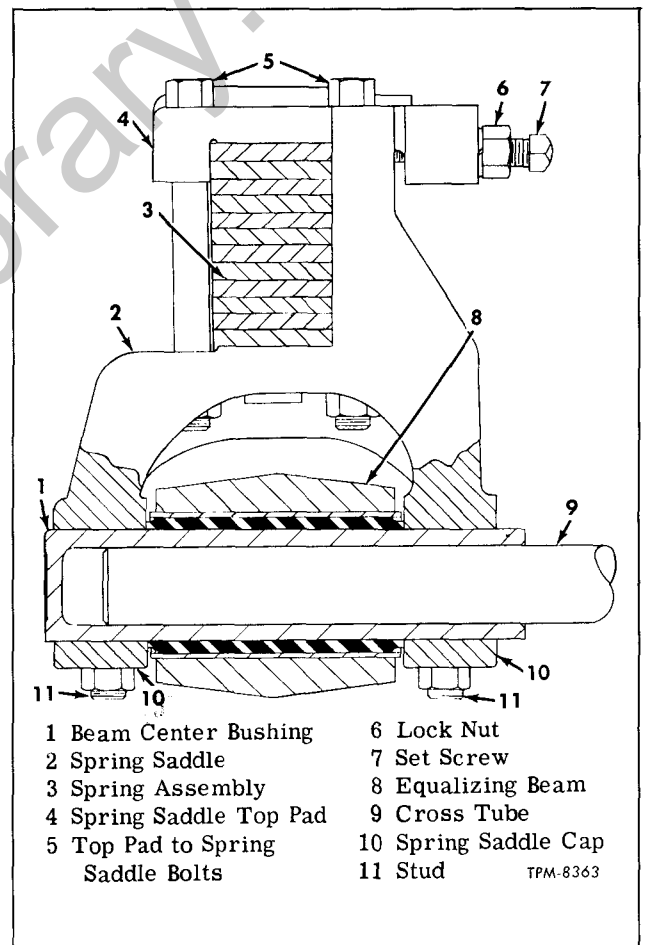

Figure 14—Section Through Spring Saddle and Beam (RT Type Suspension)
2. At axle brackets, remove nuts (5), washers (7), and bolt (1). Pry adapters (2) from bushings and brackets.
3. With blocking under beam cross tube (fig. 14 or 15) to support weight of beams, remove saddle caps (fig. 8 or 9) attached with four nuts and special flat washers.
EQUALIZING BEAM INSTALLATION (Refer to Fig. 14 or 15)